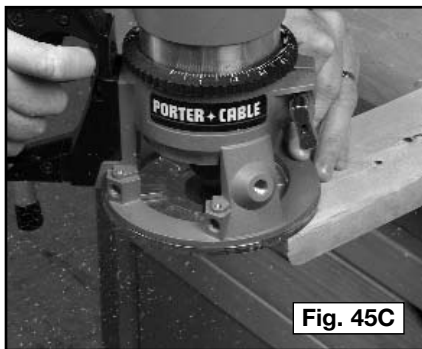

Fig. 45C
- Step 1** - Round over the ends of the two workpieces (Fig. 45C).